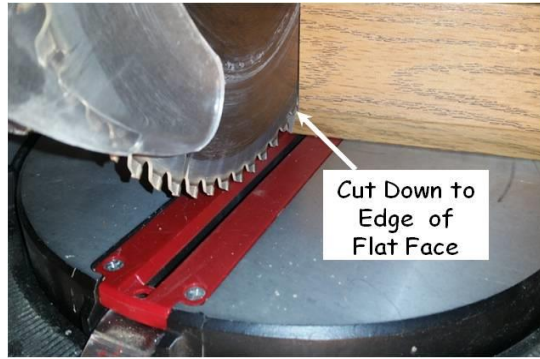

Figure 19-3. Relief Cut.
4. Cut down to the edge of the flat face (about ½” from the bottom) leaving the curved edge in place (see Figure 19-3).